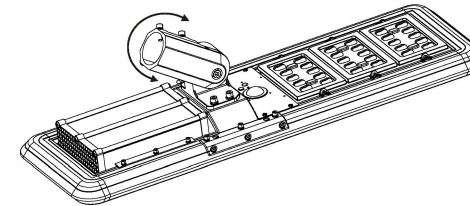

Figure 3
3. Adjust the tilt angle according to the sun in different areas. (Figure 3)